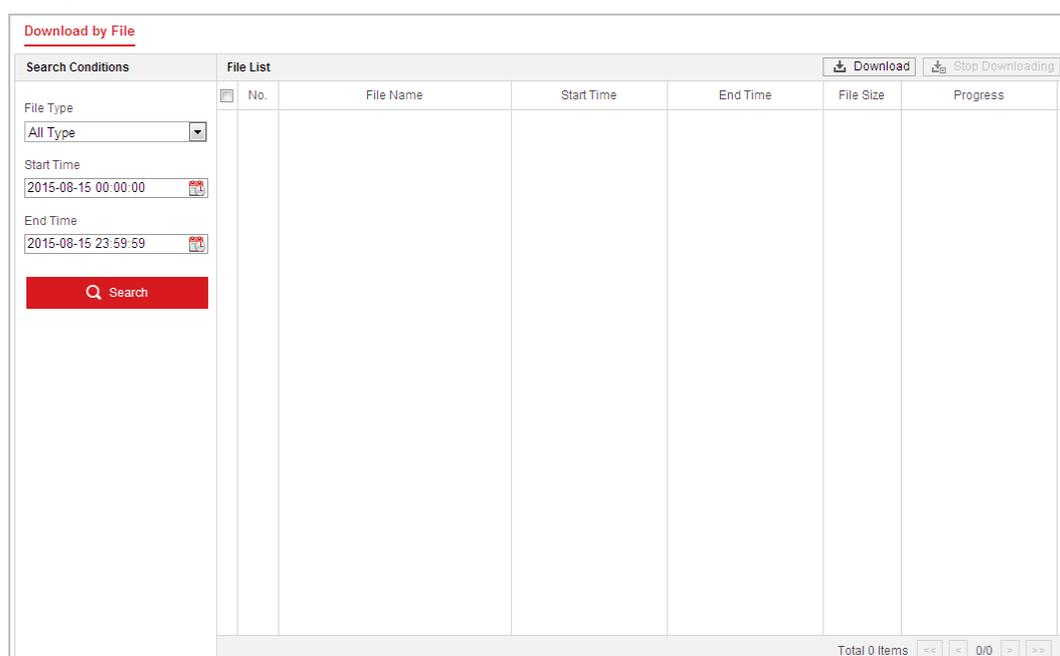

Figure 4-20 Video Downloading interface
1. Click  on the playback interface. The pop-up menu is shown in Figure 4-20.